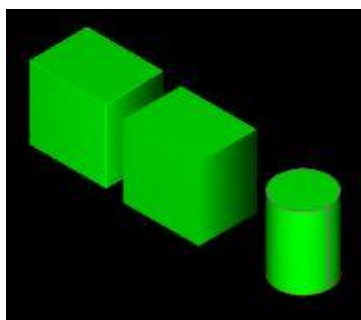

Figure 1
1. Start with two blocks and one cylinder as shown in Figure 1